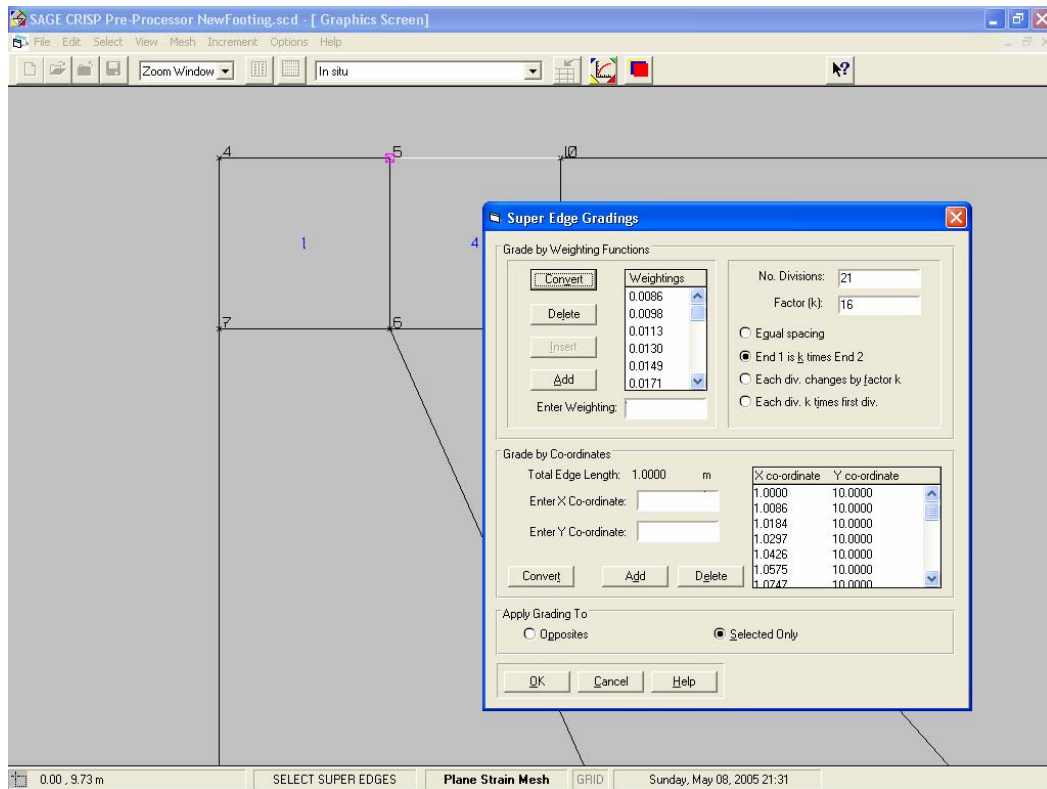

Figure 11 Defining Edge Gradings for the Top Left-Hand Edge which will form the area to the right of the footing
- Step 8** Enter '21' into the Number of Divisions text box and click on the End 1 is  $k$  times End 2 option.. Enter '16' into the Factor (k) text box. Weighting values will be automatically entered and the dialogue box should now look like Figure 11.